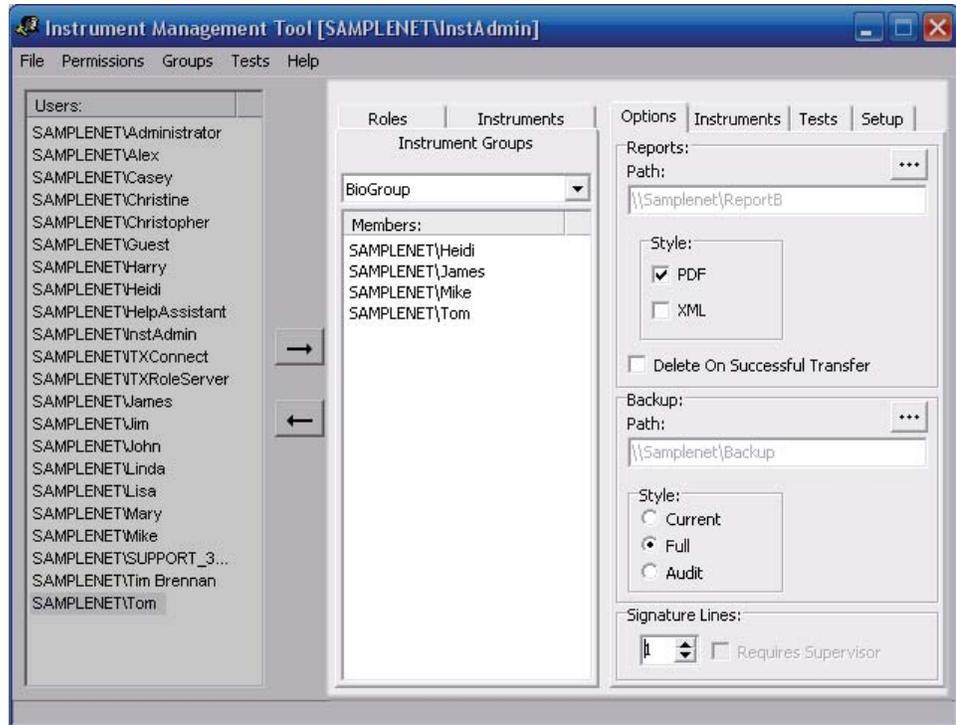

Figure 11: Instrument Management Options
Use the Central IMT to manage instrument settings. Figure 11 shows the Central IMT when limited to instrument management.
**Note:** The Options tab shown in Figure 11 is used to configure the instrument(s) report transfer, remote backup, and electronic signature options. For more information, see “Setting the Central Repository and Backup Location Paths” and “Selecting Electronic Signature Options.”